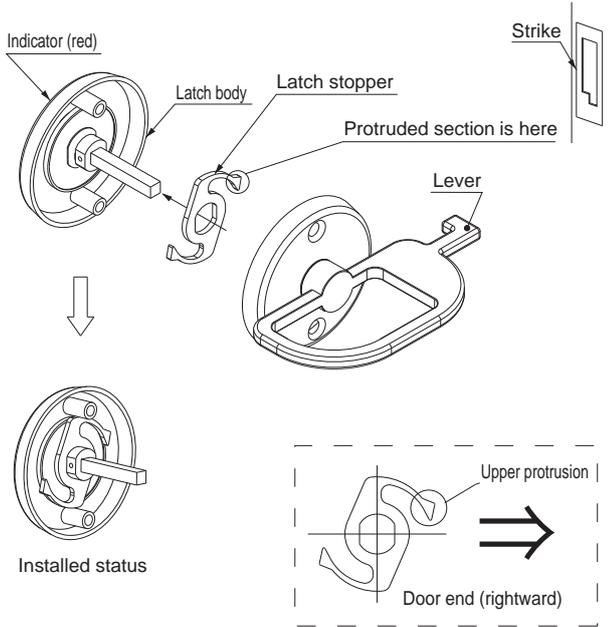
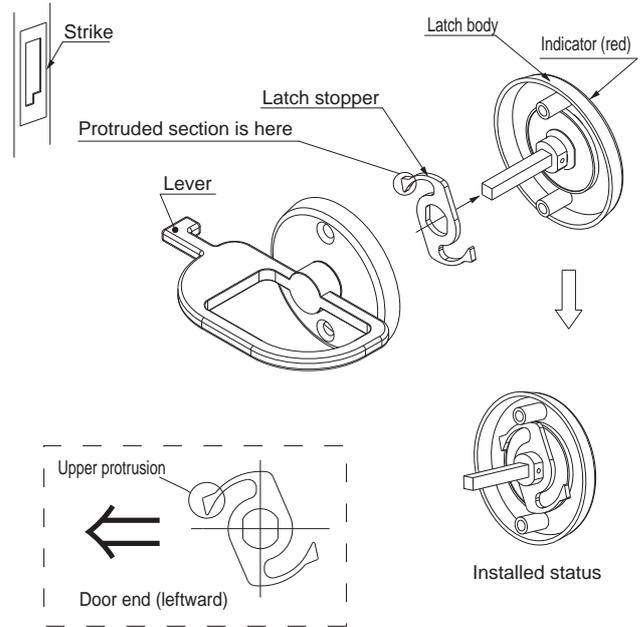

Fig. 8
Fig. 9
Ensure that the Latch body, stopper and lever are assembled as shown on Fig.8 (Right-hand) or Fig.9 (Left-hand), shown the right page. Mounting screws are not provided. Recommended screw size is shown in the table below.
- If not, disassemble and change the position of the stopper as shown above in Fig.8 (Right-hand) or Fig.9 (Left-hand).